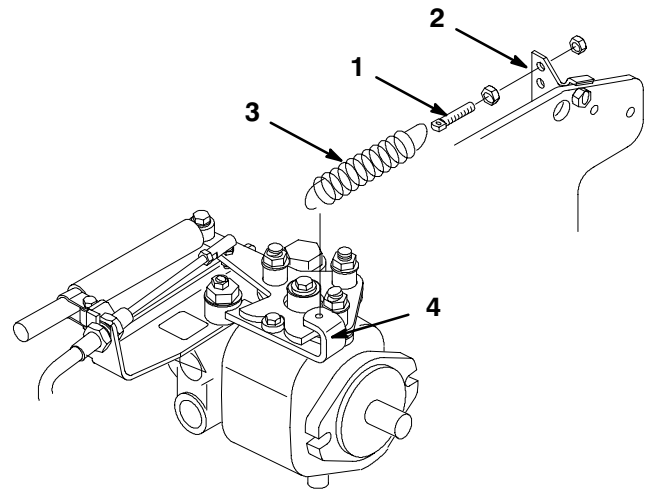

Figure 1
2. Loosen jam nuts securing adjusting pin to spring bracket (Fig. 1).
3. Unhook spring from neutral arm.(Fig. 1).